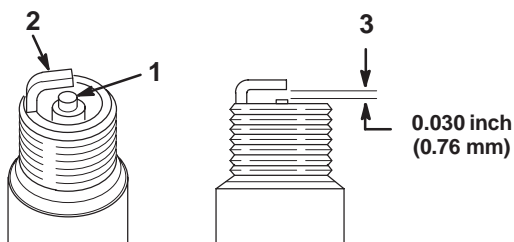

Figure 52
1. Look at the center of the spark plug (Fig. 52).
2. Check the gap between the center and side electrodes (Fig. 52).
3. Bend the side electrode (Fig. 52) if the gap is not correct.